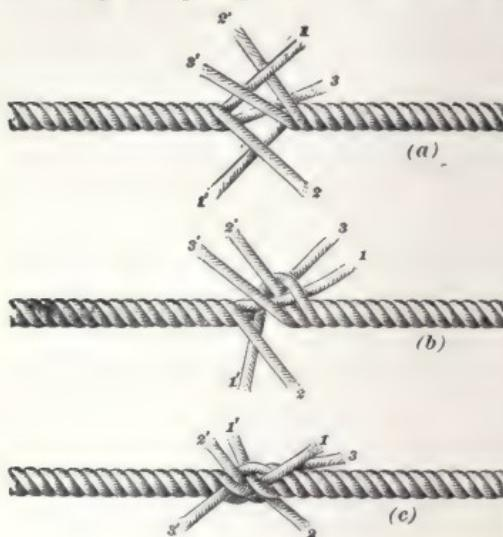

FIG. 1.
**22. Splicing a Sling.**—To make a short splice in a sling, untwist the strands for some distance from each end of the rope. Take an end in each hand and lay the strands within one another, as shown in Fig. 1 (*a*). The strands *1'*, *2'*, and *3'* may be tied to the left-hand end for convenience in handling. Now take the strand *1*, pass it over strand *2'* and under strand *1'*, as shown in Fig. 1 (*b*); then, draw it
tight. Next, take strand 2, pass it over 3' and under 2', drawing it up tightly. Now take strand 3, pass it over 1' and under 3'; then draw it up. The splice will now appear as shown in Fig. 1 (c).